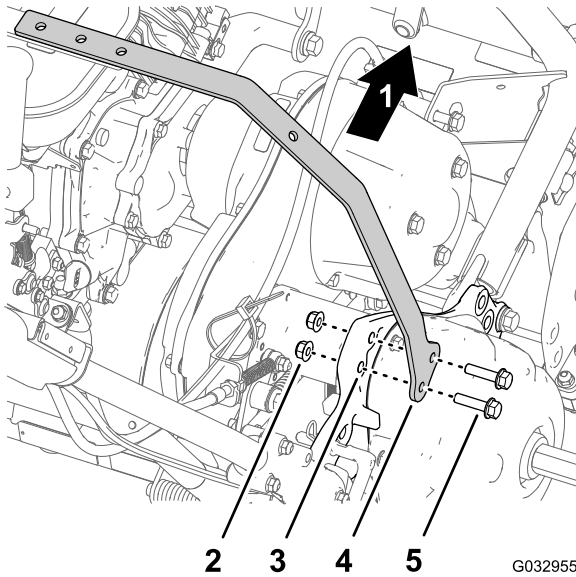

Figure 5
3. Align the 2 holes in the right light-bar strap with the 2 holes 9.5 mm (3/8 inch) holes in the right side plate (Figure 5).
4. Assemble the right light-bar strap to the right side plate (Figure 5) with the 2 flange-head bolts (3/8 x 1-1/4 inches) and 2 flange locknuts (3/8 inch).